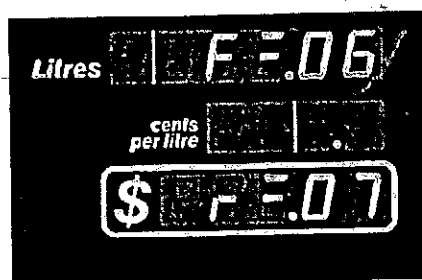

Figure 1-3 – Fuelling Position Number – FRONT
1. On the front Main Transaction Display, the display digit second from the right on the Litres display will flash a digit of the *current* Fuelling Position number for the *front* of the pump. Refer to Figure 1-3.